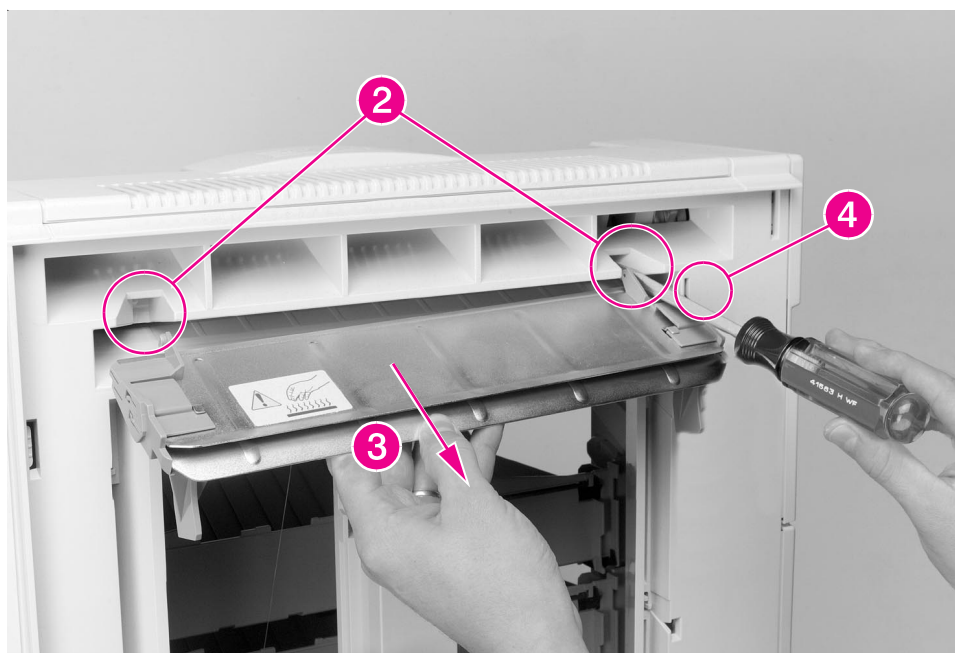

Figure 6-162 8-bin Mailbox Input Paper Guide (2 of 2)
- 4** Use a flat-blade screwdriver to release the retaining tabs that secure the Input Paper Guide to the upper-right side of the 8-bin Mailbox (Figure 6-162, callout 2).
- 1** Reroute the ground wire through its access hole (Figure 6-162, callout 4).